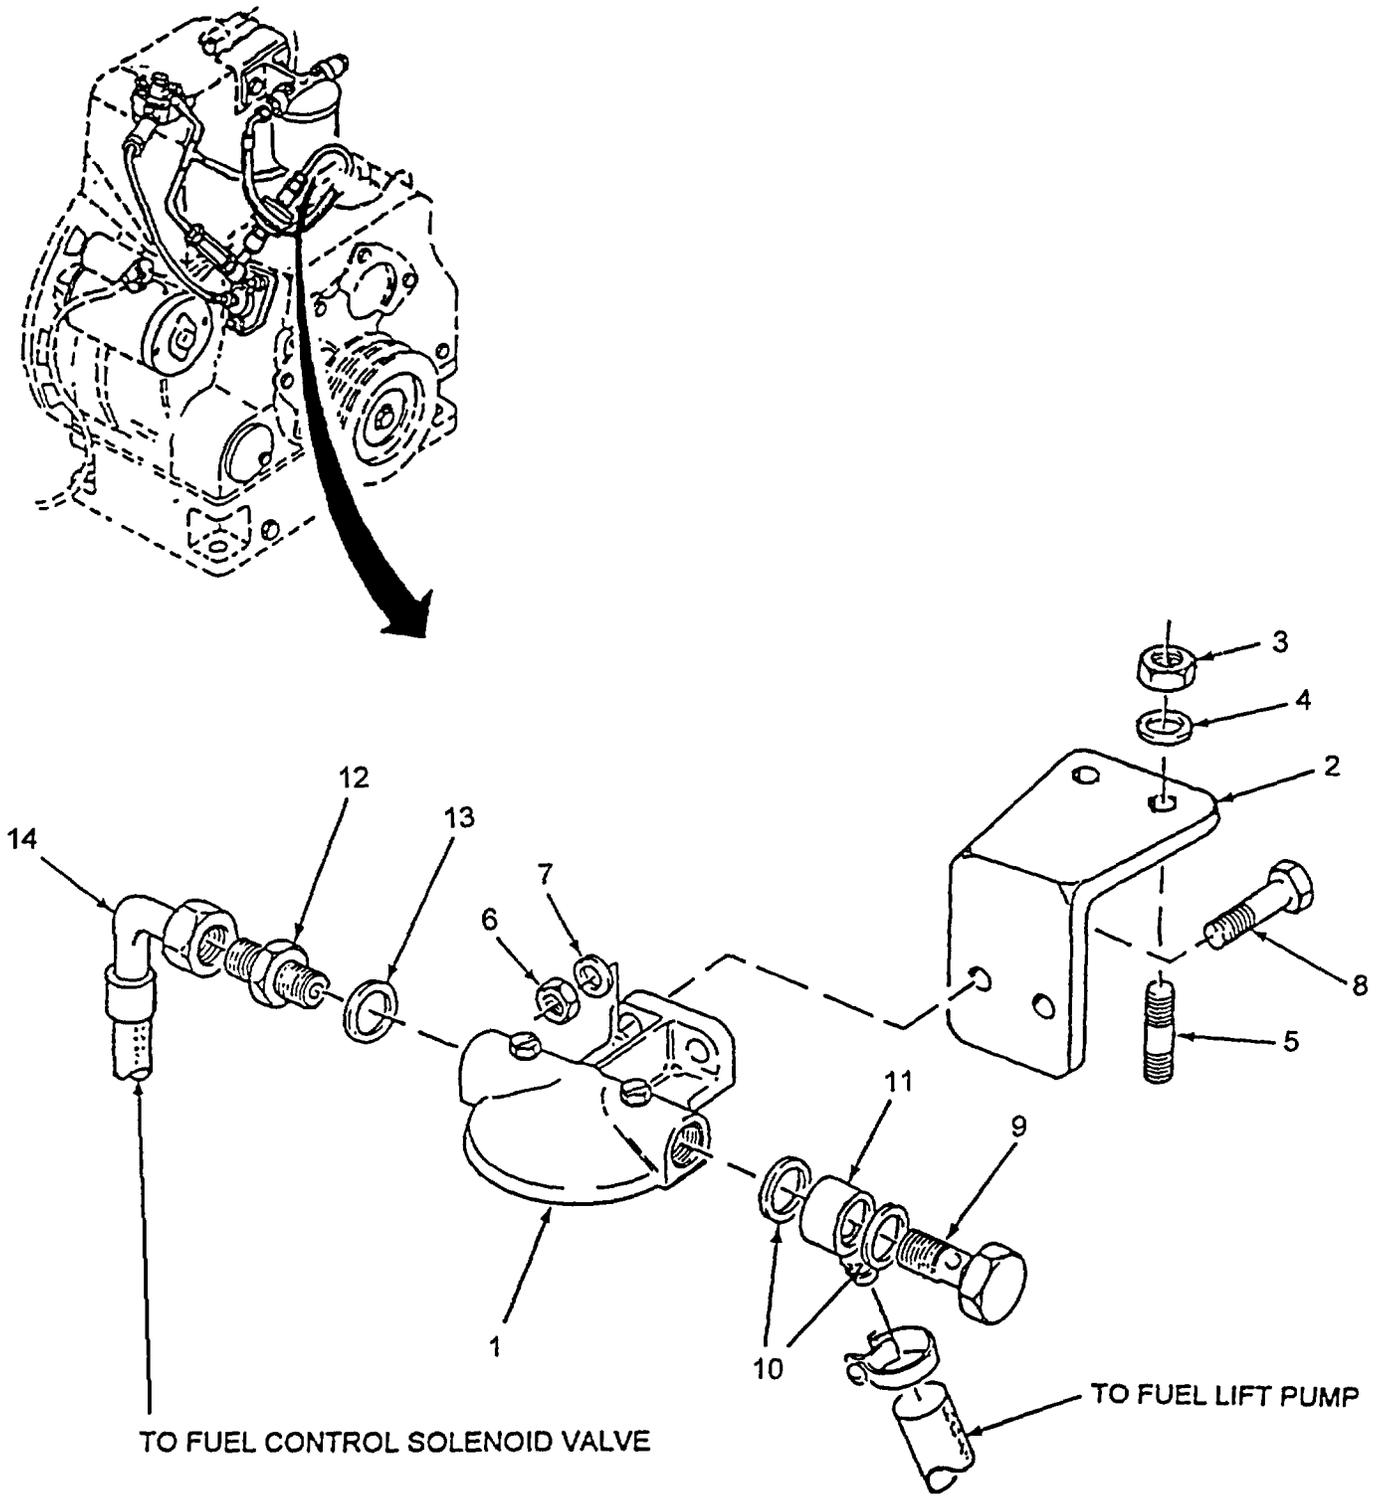

Figure 5-15. Fuel Filter Head
## (1) Removal. (Refer to Figure 5-15).
- (a) Remove fuel filter head (1) and bracket (2) from cylinder head by removing two nuts (3), two washers (4) from two studs (5).
- (b) Remove two nuts (6), two washers (7), and two bolts (8) from bracket (2).
- (c) Remove bolt (9), two washers (10), and swivel union (11) from fuel filter head (1).
- (d) Remove union (12), and washer (13) from fuel filter head (1). Remove fuel control solenoid valve line (14) from union (12).